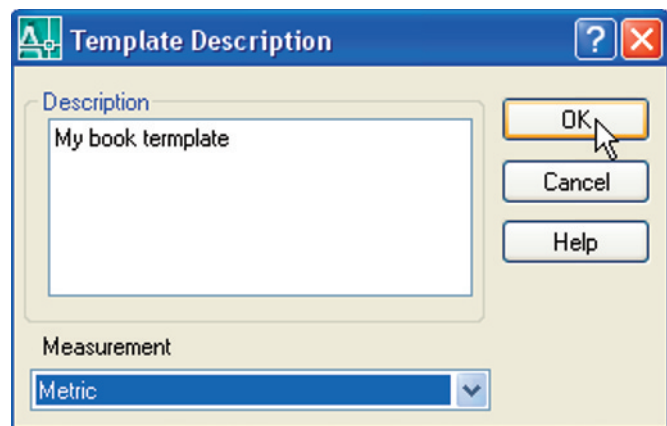

Fig. 4.22 The **Template Description** dialog
4. A **Template Description** dialog appears. Make *entries* as indicated in Fig. 4.22, making sure that **Metric** is chosen from the popup list.